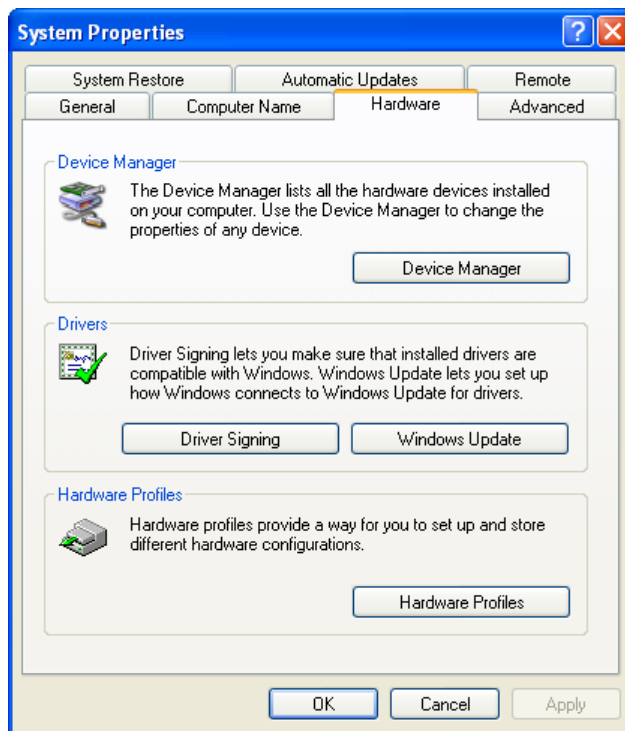

Figure 2.1-16 Running the Device Manager application
2. In the **System properties** dialog box go to the **Hardware** tab and click **Device Manager** (Figure 2.1-16).